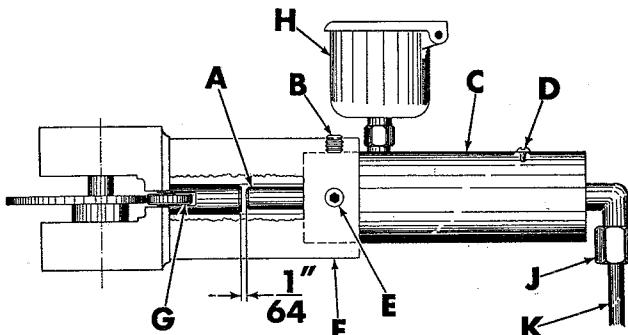

Figure 25
- Remove nut (J, fig. 25) on end of variable control cylinder -- catching oil in pan.
- Remove set screws (B) and (E) in variable cam housing (F).
- Pull out upper variable control cylinder (C).
- Remove the oil from old variable control cylinder oil reservoir (H).
- While holding variable speed dial against low speed stop, slide new control cylinder (C) into variable housing (F) until variable plunger (A) is about $1/64"$ from cam roller plunger (G). Lock in place with set screws (B) and (E).
- Install hydraulic line (K) and tighten nut (J).
- Remove bleeder screw (D) and fill oil reservoir.
- Replace bleeder screw (D).
- Loosen bleeder screw (D, fig. 25) a few turns until oil starts coming out around the screw.